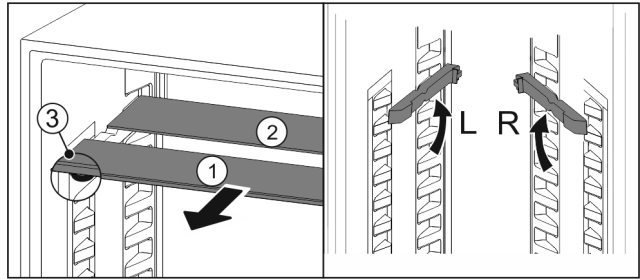

Fig. 24
- ▶ Pull the glass panels out Fig. 24 (1) from the front, one at a time.
- ▷ The glass panel Fig. 24 (1) and trim strip are at the front.
- ▷ The stops Fig. 24 (3) point down.